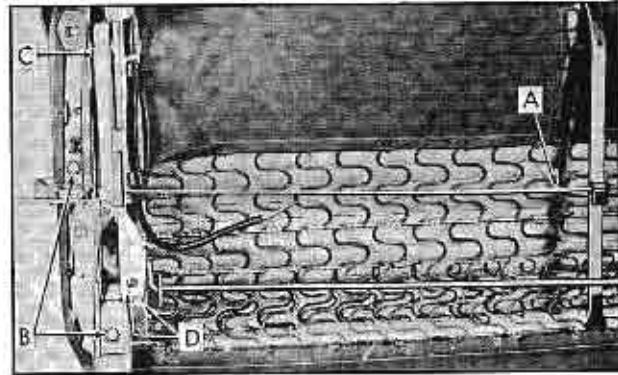

Fig. 3-62 Removal of Seat Adjuster from Seat Assembly
2. Detach locking rod "A", shown in Fig. 3-62, from seat frame.